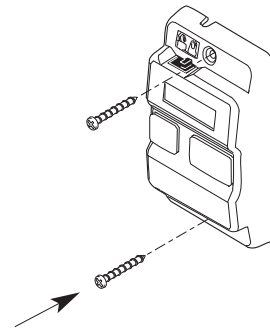

FIG. 3-4 Mounting wall control
- Fasten wall control to wall with 2 screws (provided) (**Fig. 3-4**).